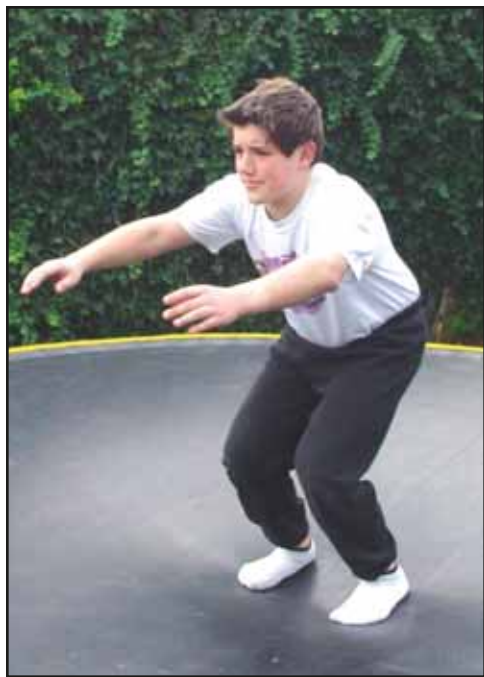

Figure 1: The Stop Bounce
4. Stop the bounce by bending at your knees and hips with the feet in contact with the bed (see Figure 1).